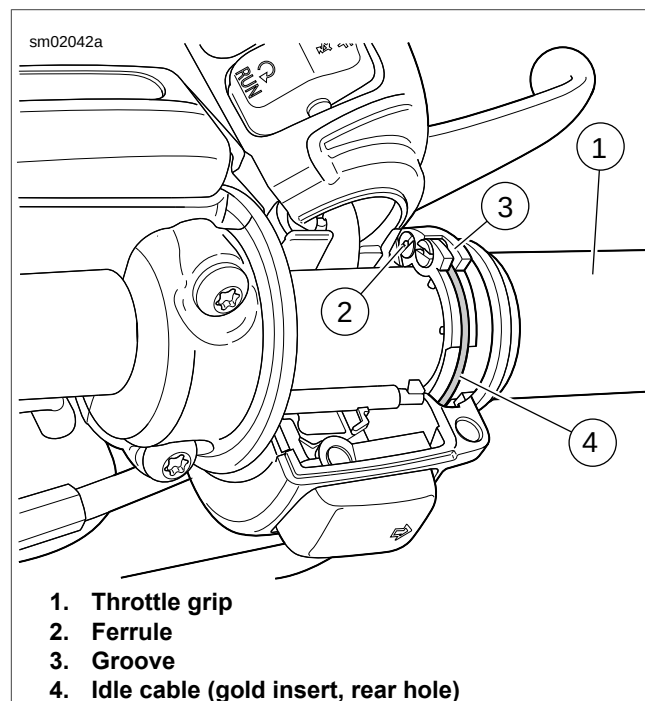
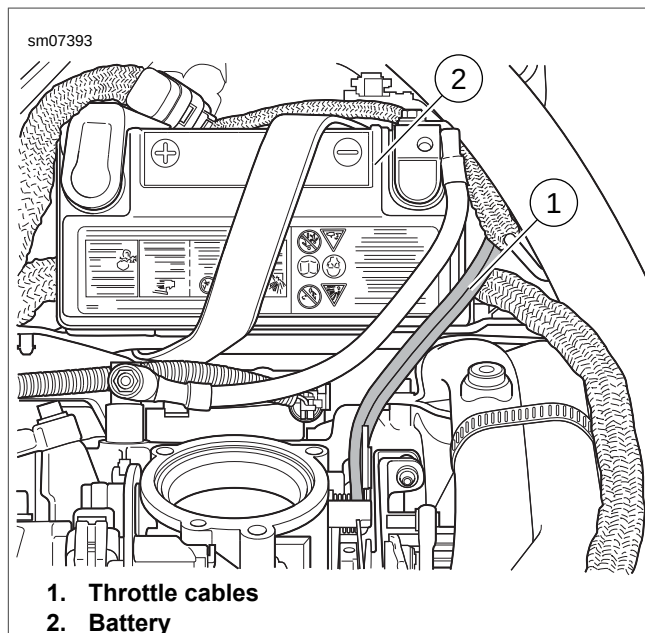

Figure 2-22. Throttle Cable Attachment
Figure 2-23. Throttle Cable Routing
6. See Figure 2-22. Pull cables from housing by placing a drop of oil on retaining ring that holds cable in housing, then firmly pull bent tubing portion of cable out of housing using a rocking motion.
2. See Figure 2-22. Attach control cable assemblies to lower housing.
4. Fit ferrules (2) over cable balls. Slide ferrules into throttle notches and rotate so cables fit grooves (3) in throttle grip.
6. See Figure 2-23. Route throttle cables over upper fork clamp and through right side cover opening along side battery to throttle body.